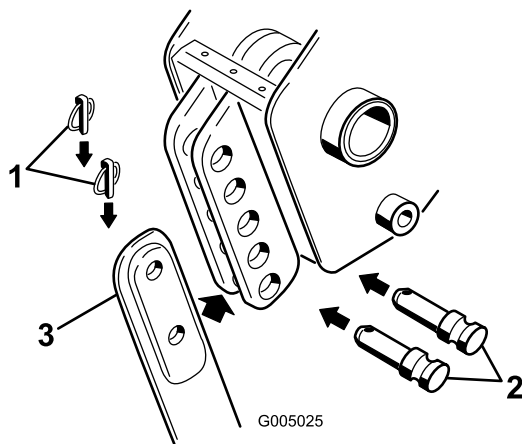

Figure 5
Note: To completely remove the blade, remove both the upper and lower lynch and clevis pins; refer to Figure 5.
4. Remove the 2 lynch pins from the clevis pins in the blade bracket, then remove the clevis pins (Figure 5) and the existing blade (if installed).
5. Slide the new blade into the blade bracket and secure it at the desired depth (a change in mounting holes changes the depth by 7.6 cm (3 inches), using the clevis pins and lynch pins removed previously (Figure 5).